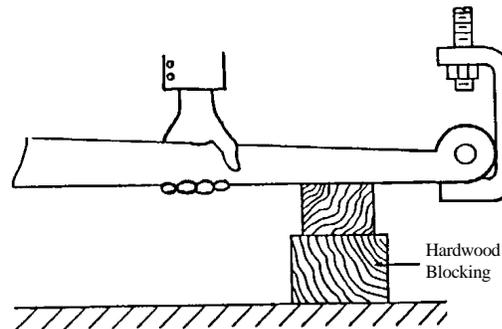

Figure 3 - BLOCKING
2. Before removing the steelyard rod, the levers must be securely supported to remove any load from the steelyard rod. This can be done on most small scales (eg., bench or portable scales) by raising the tip or small end of the main lever by hand and placing a block (i.e., hard wood) under the main lever near the tip (nose iron). The block is to be of sufficient size to hold the main lever up (load off the steelyard rod) and keep the main lever from moving side to side. See Figure 3.
- 2) Blocking to be done with hardwood block (s) of sufficient size to support the load. See Figure 3 and 4.